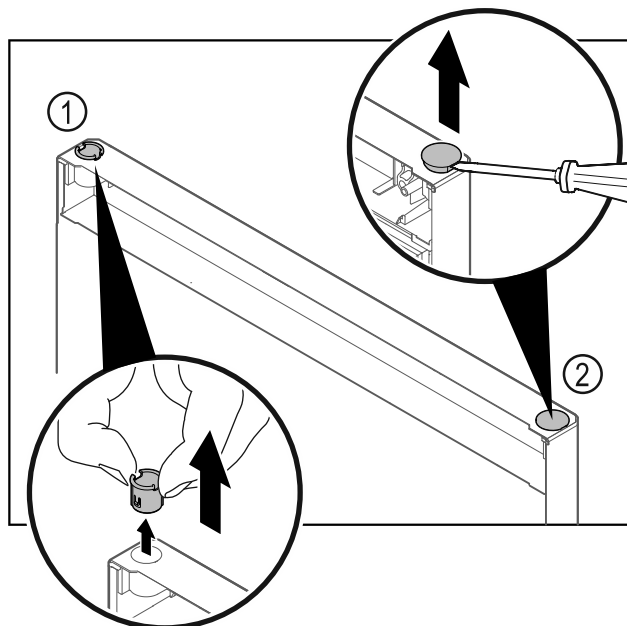

Fig. 18
- Pull out the hinge bushing Fig. 18 (1) with your fingers.
- Carefully lift the cover plug Fig. 18 (2) with a slotted screwdriver and pull it out.